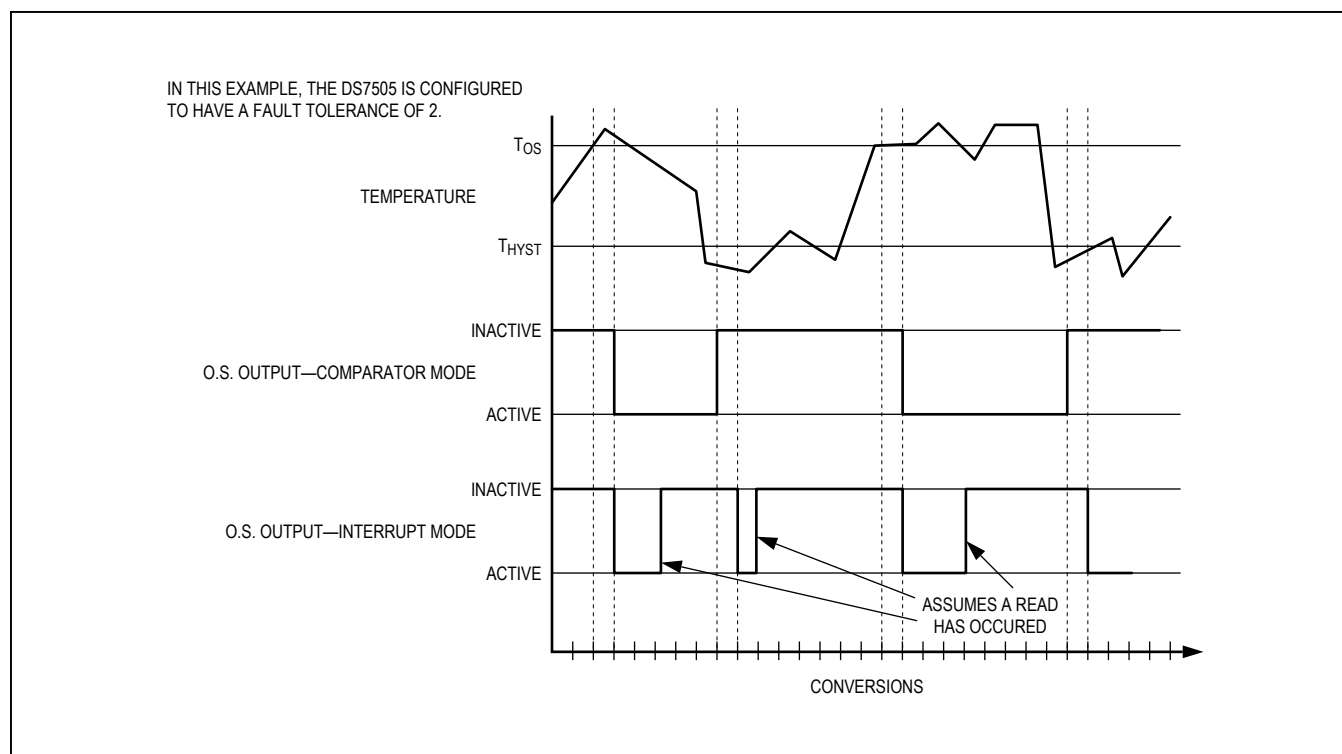

Figure 4. O.S. Output Operation Example
When the thermostat is in comparator mode, O.S. can be programmed to operate with any amount of hysteresis. The O.S. output becomes active when the measured temperature exceeds the T_{OS} value a consecutive number of times as defined by the F1 and F0 fault tolerance (FT) bits in the configuration register. O.S. then stays active until the first time the temperature falls below the value stored in T_{HYST} . Putting the device into shutdown mode does not clear O.S. in comparator mode. Thermostat comparator mode operation with $FT = 2$ is illustrated in Figure 4.
measured temperature falls below the T_{HYST} value a consecutive number of times equal to the FT value. Again, O.S. can only be cleared by putting the device into shutdown mode or reading any register. Thus, this interrupt/clear process is cyclical between T_{OST} and T_{HYST} events (i.e., T_{OST} , clear, T_{HYST} , clear, T_{OST} , clear, T_{HYST} , clear, etc.). Thermostat interrupt mode operation with $FT = 2$ is illustrated in Figure 4.